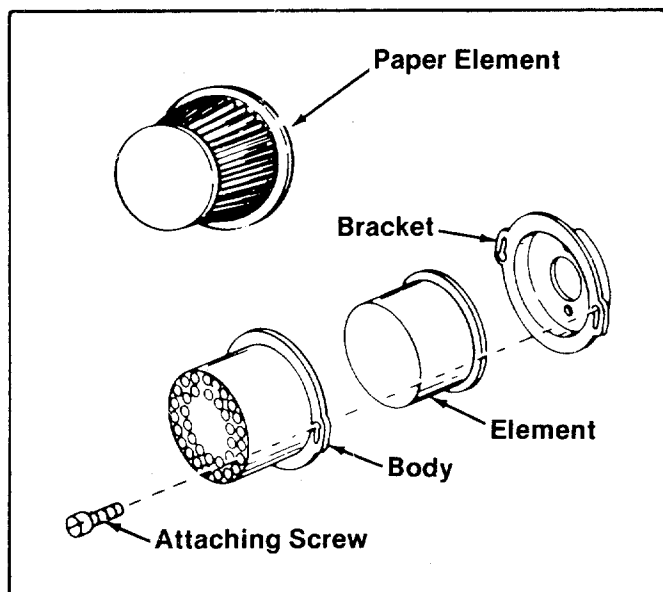

FIGURE 18
4. Air Cleaner. (See figure 18).